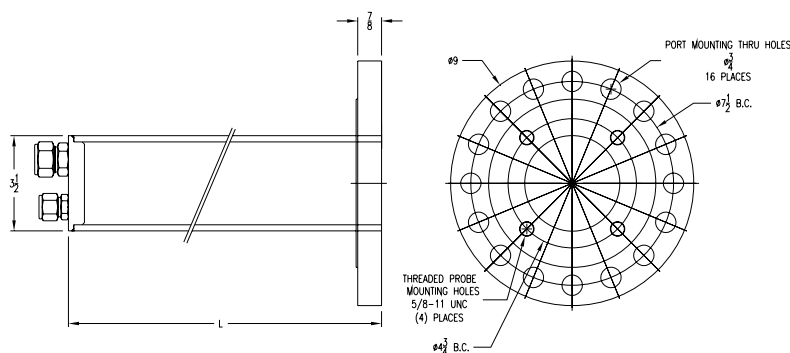

Figure 2-9. Mantel with Universal Mounting Flange
- Align mantel thru holes (Figure 2-9) to stack sample port thru holes, so probe is in desired position. Refer to Figure 2-10 and install hardware in four places.